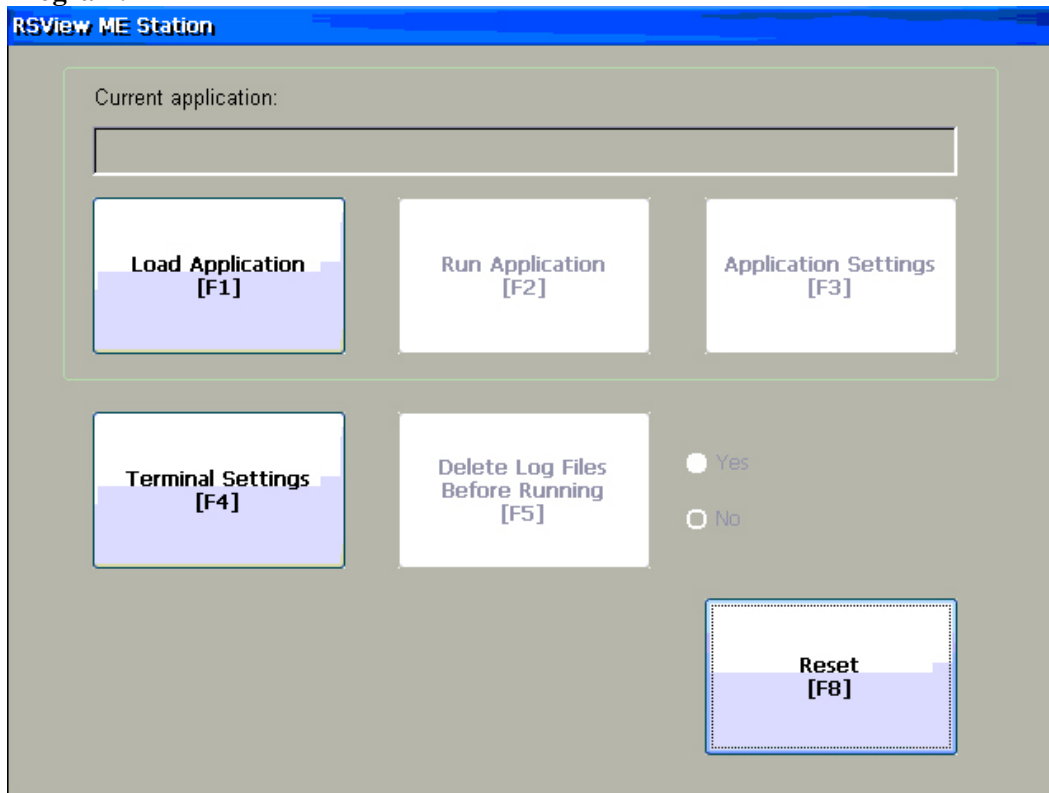

Fig 13
7. If the VersaView boots to the RSView ME Station screen without an “Exit [F8]” button (*Fig 13*), insert the VersaView Program Compact Flash Card labeled **744.00134.00 10P80S Disp Program**.
15. The RSView ME Station Screen without an “**Exit [F8]**” button (*Fig 13*) will appear.
8. The Load Application Screen (Fig 13) will appear.